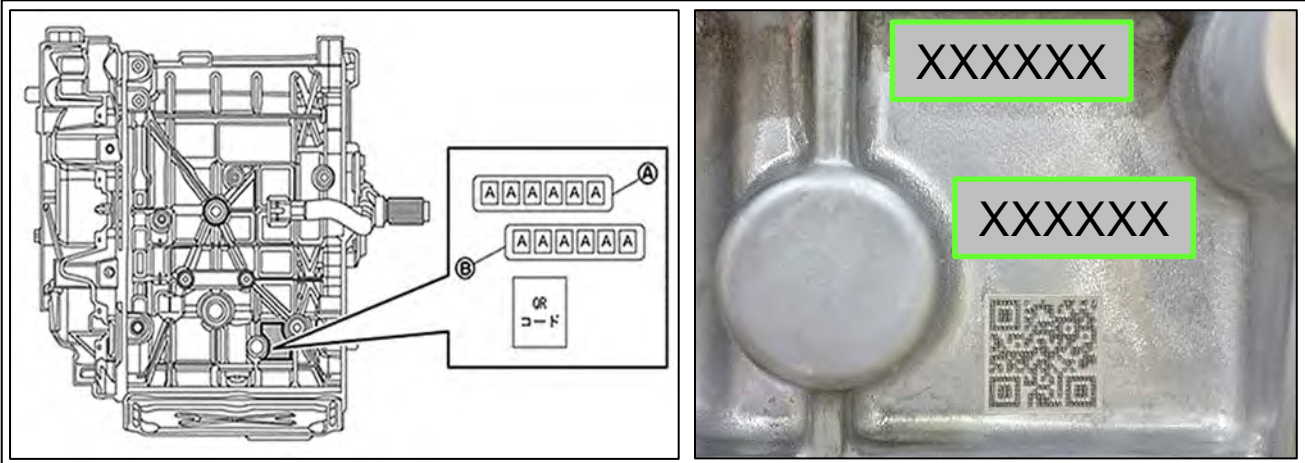

Figure 127
149. Write down the front Traction Motor's resolver correction value (A) and rotor resistance value (B) on the repair order (Figure 127).